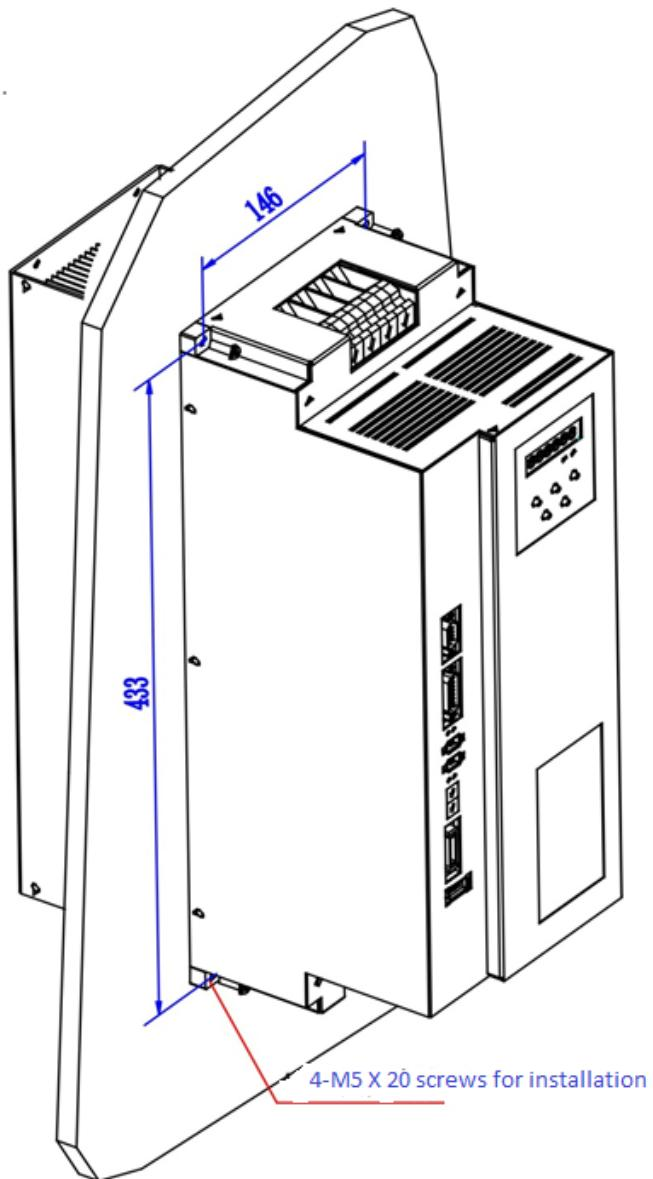

Figure 5.4.8 Wall-through mounting installation mode of HSV-180US-100, 150
- Wall-through mounting, as shown in Figure 5.4.8.